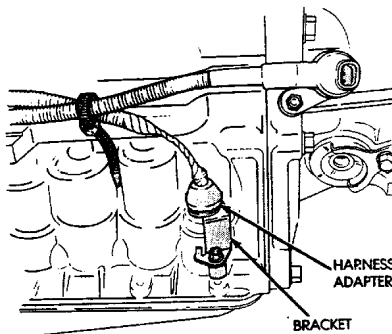

Fig. 10 Harness Adapter Removal/Installation
(3) Remove bracket securing solenoid harness adaptor (Fig. 10) to case.
(4) Pull harness adaptor and wires out of case.
(5) Remove and discard adapter O-ring.
(6) Lubricate new O-ring and install it on adapter.
(7) Install solenoid wire harness and adapter in case.
(8) Install adapter bracket and bracket bolt.
(9) Connect wires to solenoids.
(10) Install oil screen and oil pan.